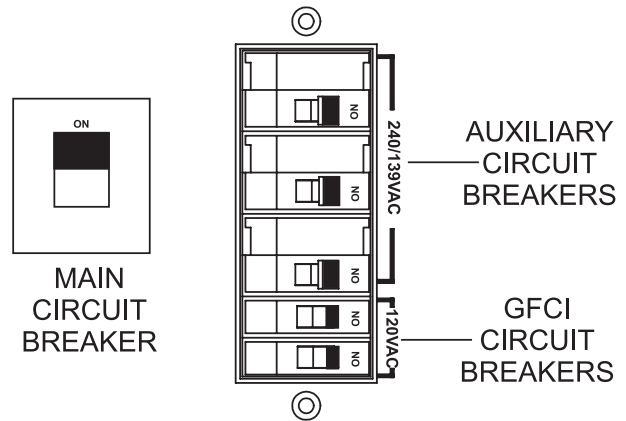

Figure 61. Main, Aux. and GFCI Circuit Breakers (ON)
12. Place the **main, auxiliary, and GFCI** circuit breakers in the **ON** position (Figure 61).